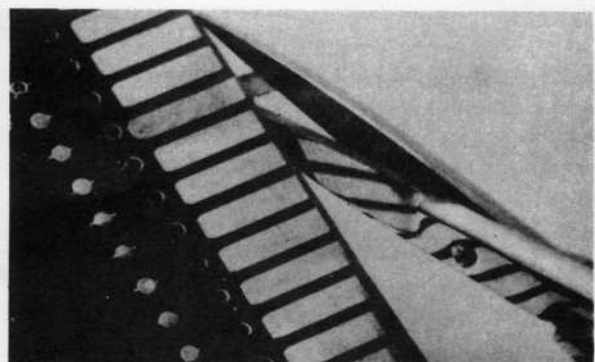

FIGURE 26. TRIMMING EDGE CONNECTOR
STEP 23. Using a pair of scissors, cut the excess Edge Connector from the board (see Figure 26).